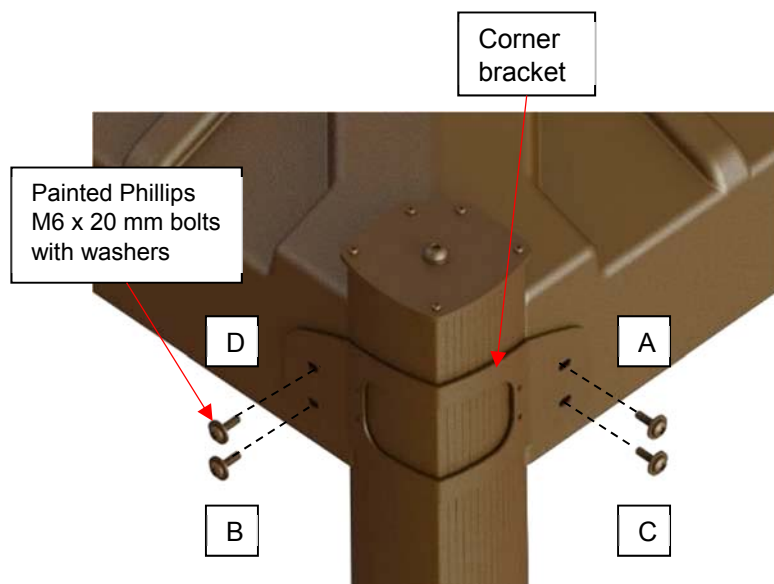

Figure 73
- 3) Install the first corner bracket (Figure 73). Fasten the bracket to the cover with four painted Phillips M6 x 20mm bolts and 5/16" painted washers.
**Note:** Follow the patterns shown for installing the bolts (A to D). (Figure 73)
**Note:** We recommend placing the rounded edge of the corner bracket toward the top. (Figure 73)